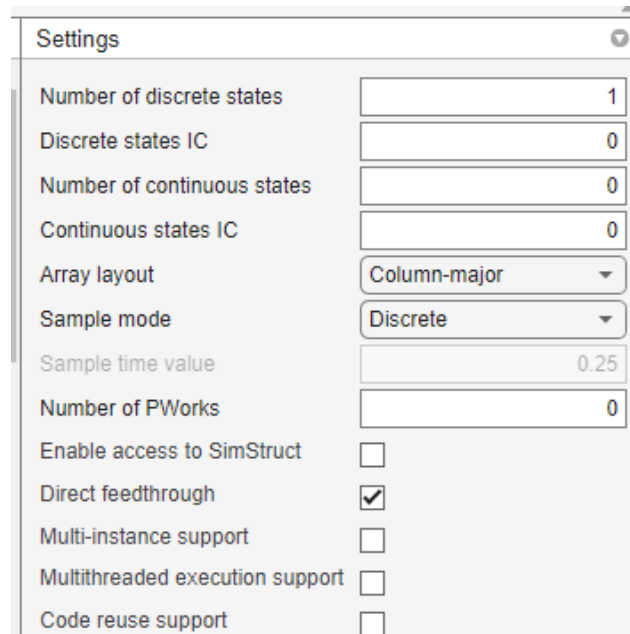

Figure 4.6: S-function setting part.
2. Setting part setup as Figure 4.6. The sample mode changes to discrete and sample time values follow as the Max6675 setup for get same time reading data. These sample time values can change based on the sensor and their calculation time used.